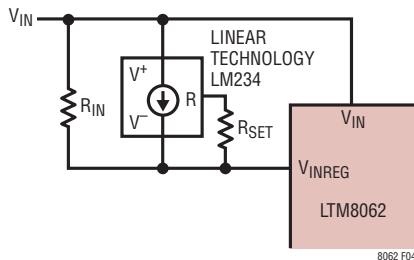

Figure 4. MPPT Temperature Compensation Network
In the circuit shown in Figure 4,
As the temperature coefficient for V_{MP} is similar to that of V_{OC} , the specified temperature coefficient for V_{OC} (TC) of $-78mV/^{\circ}C$ and the specified peak power voltage ($V_{MP}(25^{\circ}C)$) of 17.6V can be inserted into the equations to calculate the appropriate resistor values for the temperature compensation network in Figure 4. With R_{SET} equal to 1k, then: